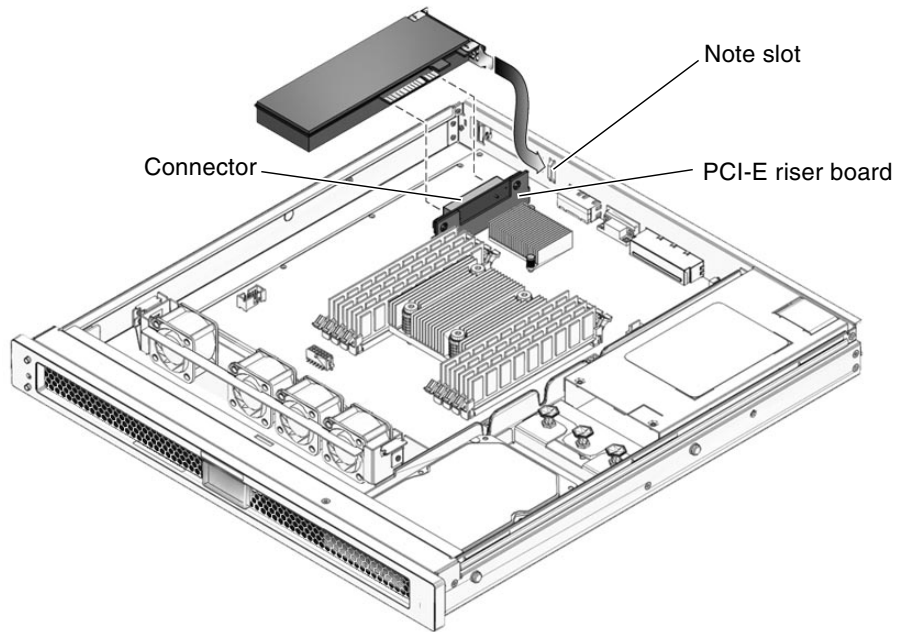

FIGURE 5-2 Removing and Installing the PCI-Express Card
4. Carefully pull the PCI-Express card out of the connector on the PCI-Express card riser board and the note slot (FIGURE 5-2).
2. Insert the PCI-Express card into the connector on the PCI-Express riser board and the note slot (FIGURE 5-2).